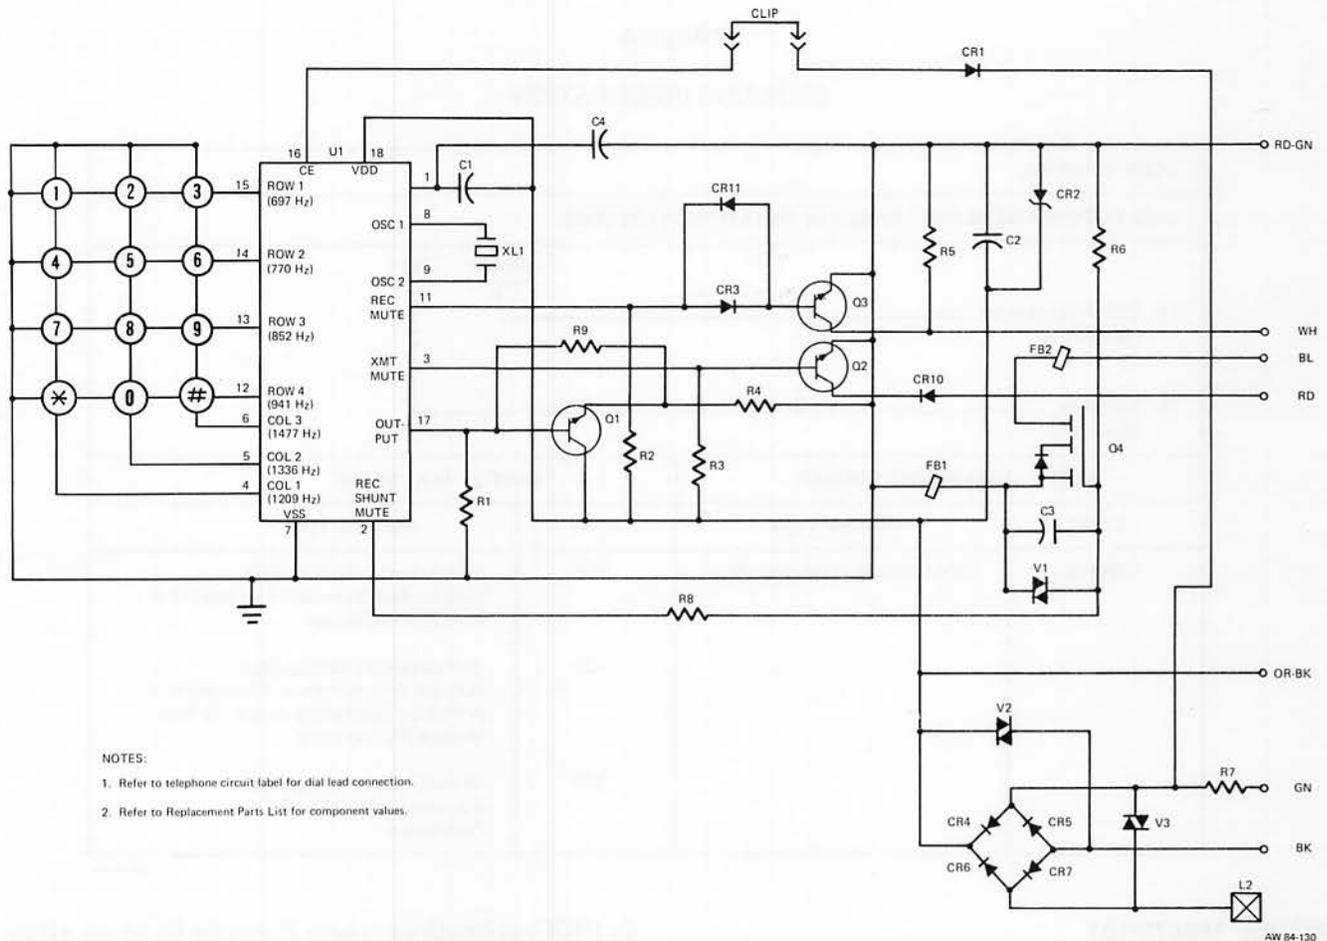

Figure 3: Model 188478 Pushbutton Dial, Schematic
2.04 The tone-generating PCB consists of a DTMF generator integrated circuit (IC), a crystal oscillator, and various other solid-state components. The crystal oscillator provides a constant reference for the tone generator IC that generates eight digitally-synthesized tones. The other solid-state components, along with the IC, provide hand-set receiver and transmitter muting, and polarity guard. (See Figure 3.)